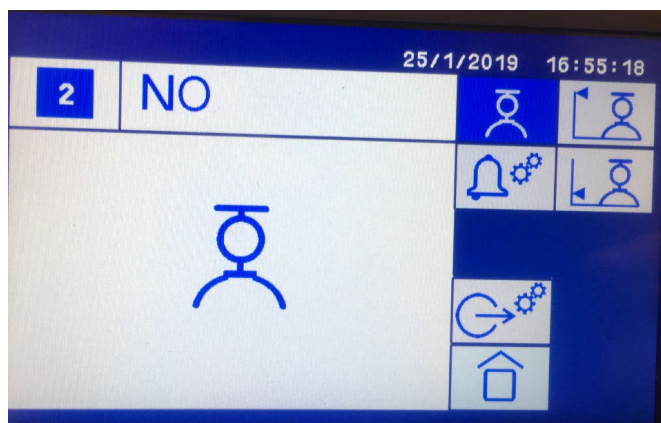

Figure 11-1: Calibration screen (manual calibration activated)
- b. Touch the high span measurement  icon shown on the screen (see Figure 11-1).
5. When the calibration procedure is finished touch the Back  icon to terminate “Service In Progress” and bring up the measurement screen (Figure 11-1).
- b. Touch the Low Span or Zero measurement  icon shown on the screen in Figure 11-1.